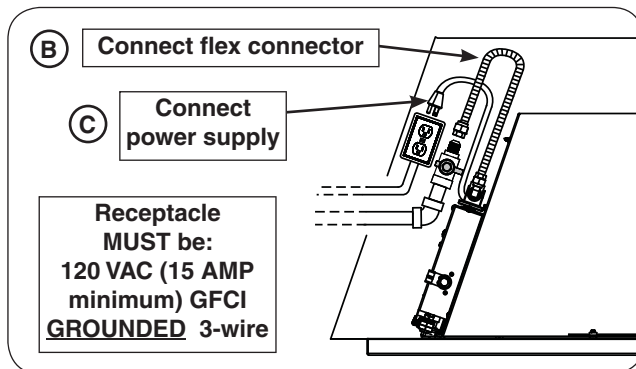

Fig. 23-2 Make gas & electrical connections
3. Connect a $\frac{3}{8}$ " C.S.A. approved stainless steel flex connector (not included) to the gas valve on the left side of the insert. Tighten securely. Then connect the open end of the flex connector to the previously plumbed gas supply / shut-off valve (see Fig. 23-2, B). Use a pipe compound resistant to all gasses on all male connections except brass to brass connections.
5. Connect the power supply cord coming from the left side of the unit to the previously wired **120 VAC (15 AMP minimum) GFCI GROUNDED 3-wire receptacle** (see Fig. 23-2, C).